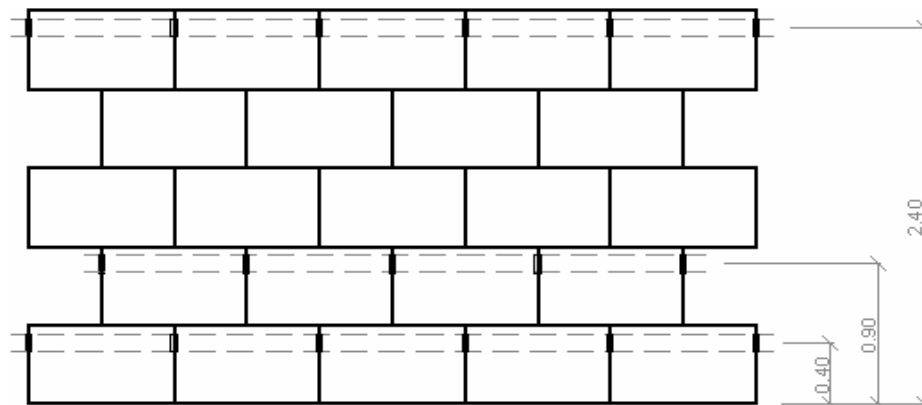

fig. 4
1. Previously we must know the height of the different installations (switches, lights, air conditioning,...), being their more usual locations those on Fig. 4: